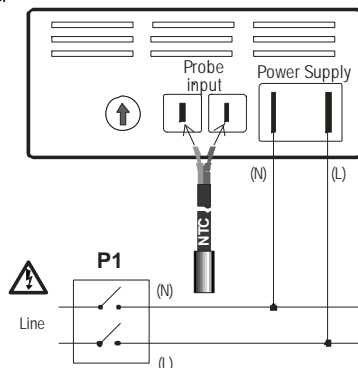

Fig.1
3. INSTALLATION - 230V OR 115V VERSION (FIG.1)
- ⚠ Disconnect the power supply from the board by means of a panel switch, not supplied, (P1 in Fig.1).
- If possible, the manufacturer suggests connecting the phase (L) to the fast-on on the right and neutral (N) to the fast-on on the left as indicated.
5. DISCONNECTION AND PROBE SUBSTITUTION (FIG.1)
- ⚠ Disconnect the power supply on the board where the instrument is positioned, by means of the panel switch (P1 in Fig.1)